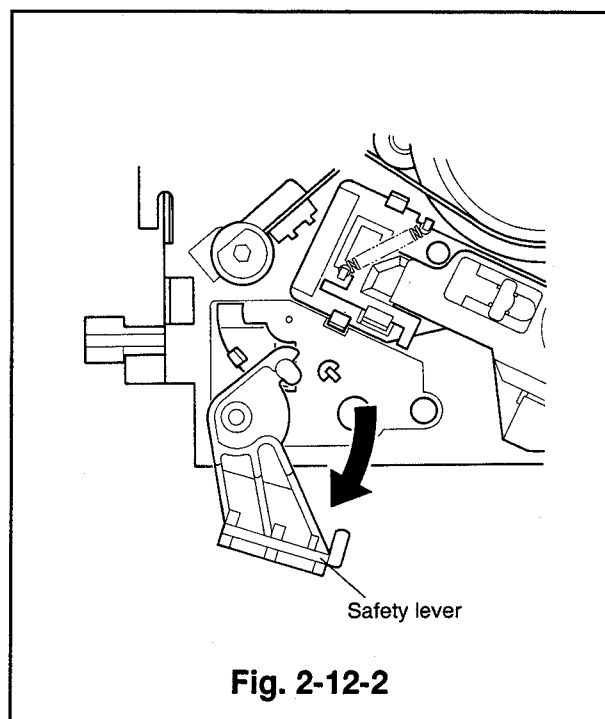

Fig. 2-12-2
- ① Remove the cassette housing. (Refer to Para. 2-1 for the removal method.)
- ② Unhook the safety spring with a tweezers.
- ③ Turn the safety lever clockwise and remove by raising it upward as shown in Fig. 2-12-2.